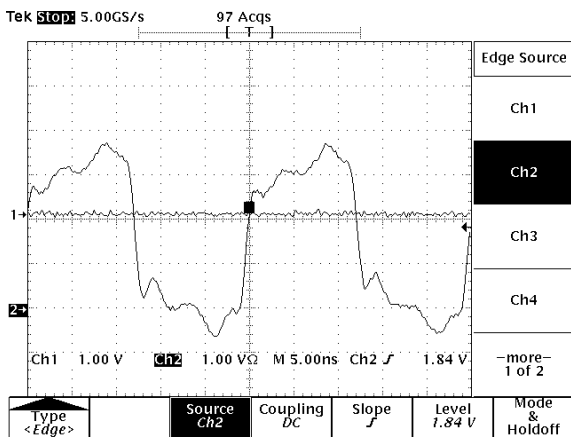

Figure 7: w.ext.;  $47\ \Omega$ ; h.s.p.; without stub
- With extender; series resistor  $47\ \Omega$ ; high speed probe; measured at the very end of the read out PCB, avoiding in this way a dead termination, which reduces drastically reflections present in the rise and fall edges, as seen in figure 7.